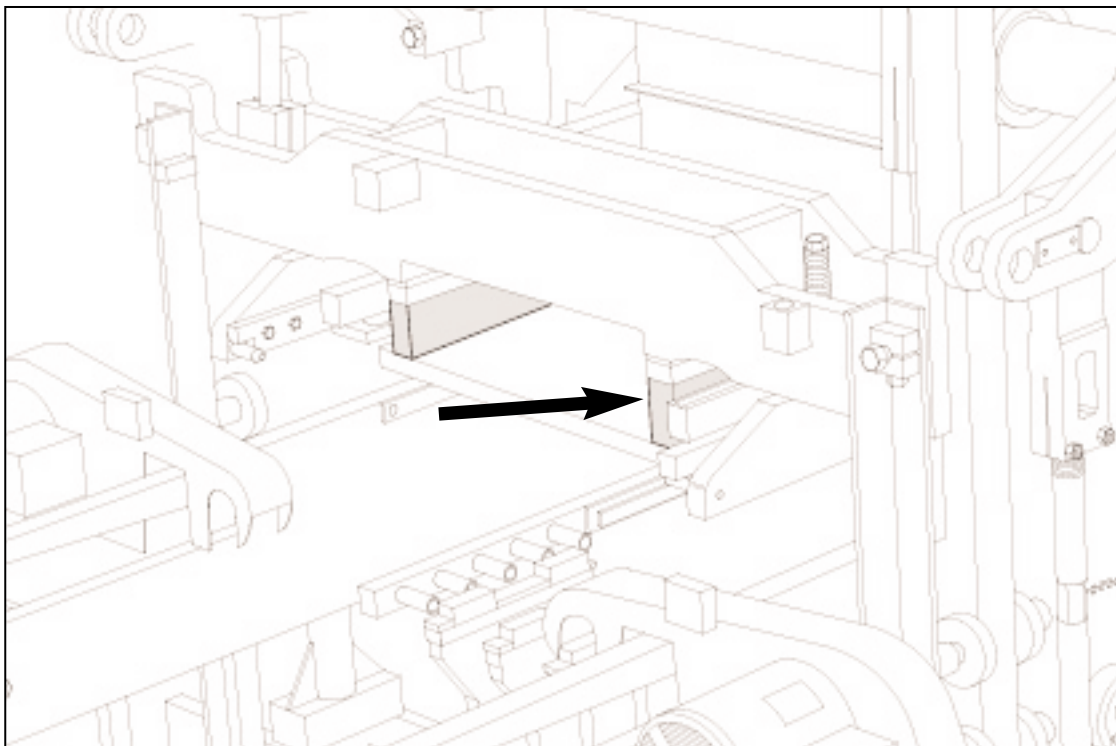

Figure 4.16 4 3/8" [111mm] BLOCKING UNDER STRIPPER HEAD FRAME.
4.1.9 The DYNAPAC is now ready for the installation of the mold assembly. Follow the directions for installing an attachment in section 5 of this manual. When installing the stripper head, insert **4 3/8" [111mm]** of blocking in addition to the **1 1/2" [38mm]** blocks already affixed to the stripper head frame (figure 4.16). The above blocking assumes a stripper head height of **14 3/16" [360 mm]** from the top of the head plate to the bottom of the shoes.